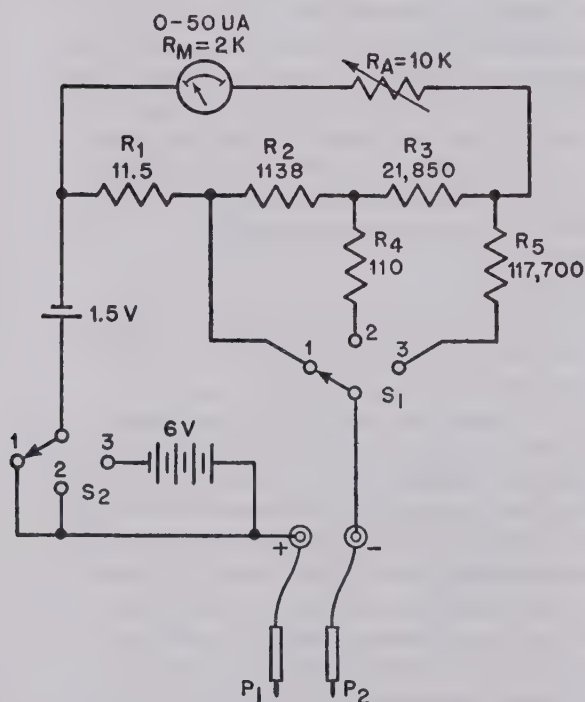

Figure 35. Commercial multirange ohmmeter circuit using highly sensitive 50- μA meter.
used, resistances over all ranges can be measured with much smaller battery voltages. A meter rated at 20,000 ohms-per-volt requires a total current of $50\text{ }\mu\text{A}$ (microamperes) through the meter for full-scale deflection. This meter is 20 times as sensitive as the meter with a 1-ma movement, and a much lower source of battery voltage is required for all ranges. The circuit of a commercial ohmmeter providing resistance measurements from .2 ohm through 20 megohms is shown in figure 35. This wide variation in resistance measurement is covered in three ranges: 0 to 2,000 ohms on the low range, 0 to 200,000 ohms on the second range, and 0 to 20 megohms on the high range. The first two ranges are powered by a 1.5-volt battery, and a voltage of 7.5 volts (1.5 plus 6) extends measurement to 20 megohms on the high range.
j. Switches S_1 and S_2 are ganged together to connect the proper shunt and series resistors in the circuit and, at the same time, to select the correct battery voltage (fig. 35). Test prods P_1 and P_2 must be shorted together and 0-ohm resistor R_A adjusted for full-scale deflection on